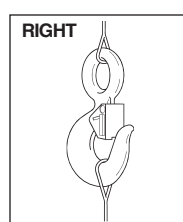
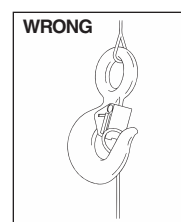

Figure 3
Figure 4
- Always make sure the hook supports the load. (See Figure 3). The latch must never support the load (See Figure 4).
- When placing two (2) sling legs in hooks, make sure the angle between the legs is less the 90° and if the hook or load is tilted, nothing bears against the bottom of this latch. (See Figures 3 & 4)